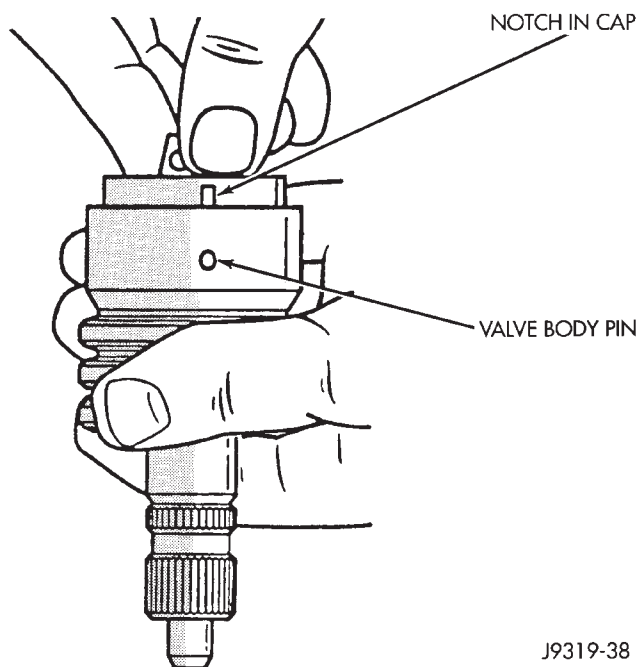

Fig. 17 Stub Shaft Installation
(1) Install spool valve spool O-ring.
(2) Install spool valve in valve body by pushing and rotating. Hole in spool valve for stub shaft pin must be accessible from opposite end of valve body.
(3) Install stub shaft in valve spool and engage locating pin on stub shaft into spool valve hole (Fig. 17).